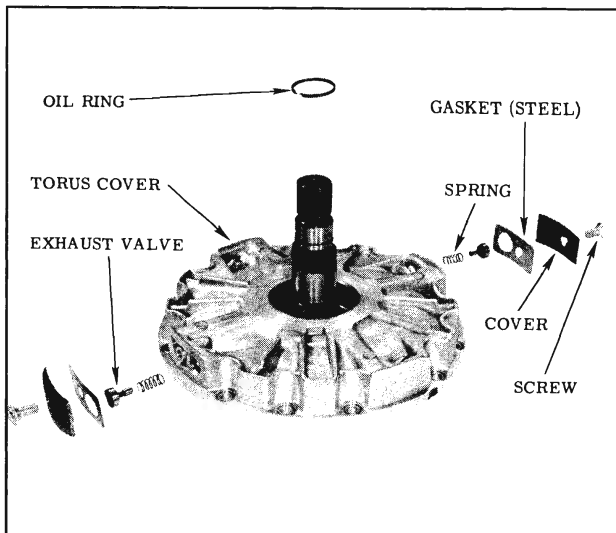

Fig. 3-66 Torus Cover Assembly
#### DISASSEMBLY OF TORUS COVER (FIG. 3-66)
**ASSEMBLY OF TORUS COVER (Fig. 3-66)**